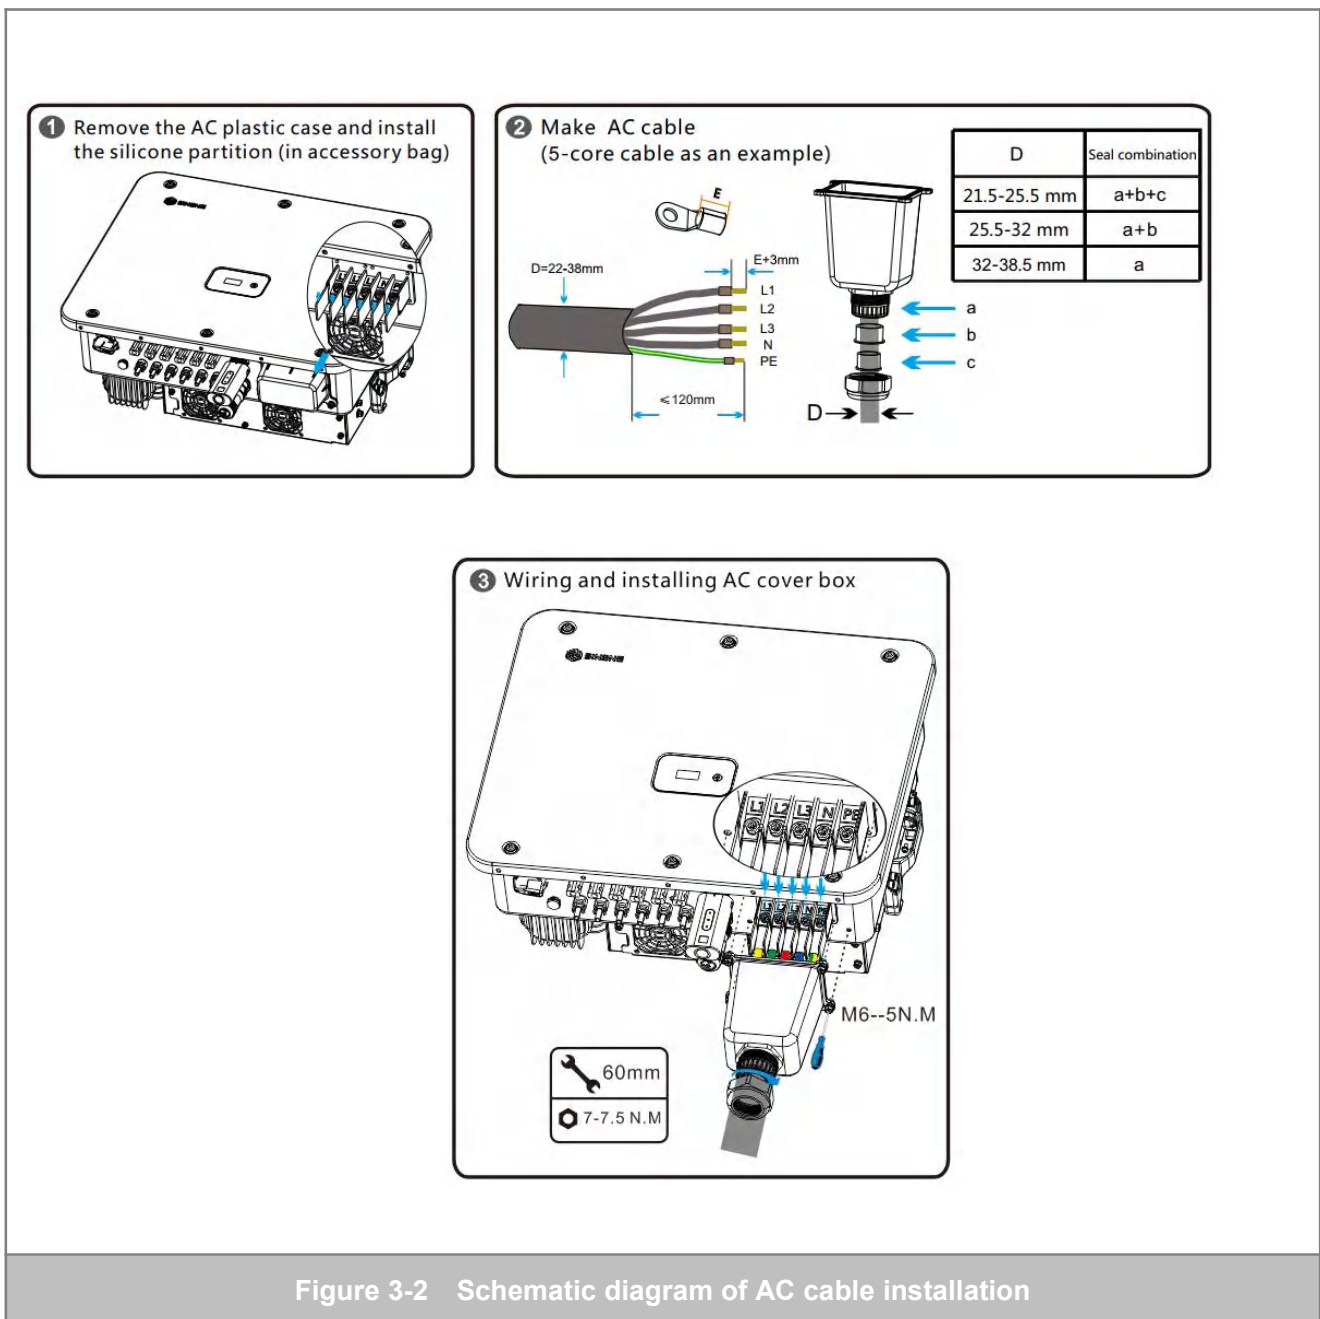

Figure 3-2 Schematic diagram of AC cable installation
- (1) Remove the plastic protective cover outside the AC terminal (do not discard the 4*M6 screws, which will be used later), and install the partitions in the accessory package.
- (2) After the AC cable is passed through the cable gland (select the appropriate cable gland sealing ring according to the wire diameter), make the AC cable, strip the cable, and crimp the terminal as shown in step 2 of Figure 3-2.
- (3) Use a Phillips screwdriver to fix the AC cable on the terminal. The recommended torque is 5 N.m.
- (4) Fasten the AC protective box on the chassis with the 4*M6 screws described in step 1.
- (5) Tighten the nut of the gland with a 60 wrench. The recommended torque is 7-7.5 N.m.